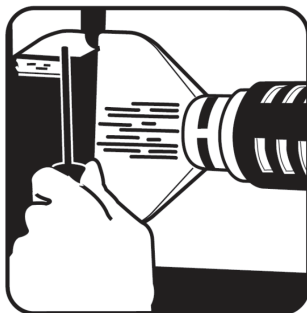

Fig 2
- **Flat nozzle (See Fig. 2)**